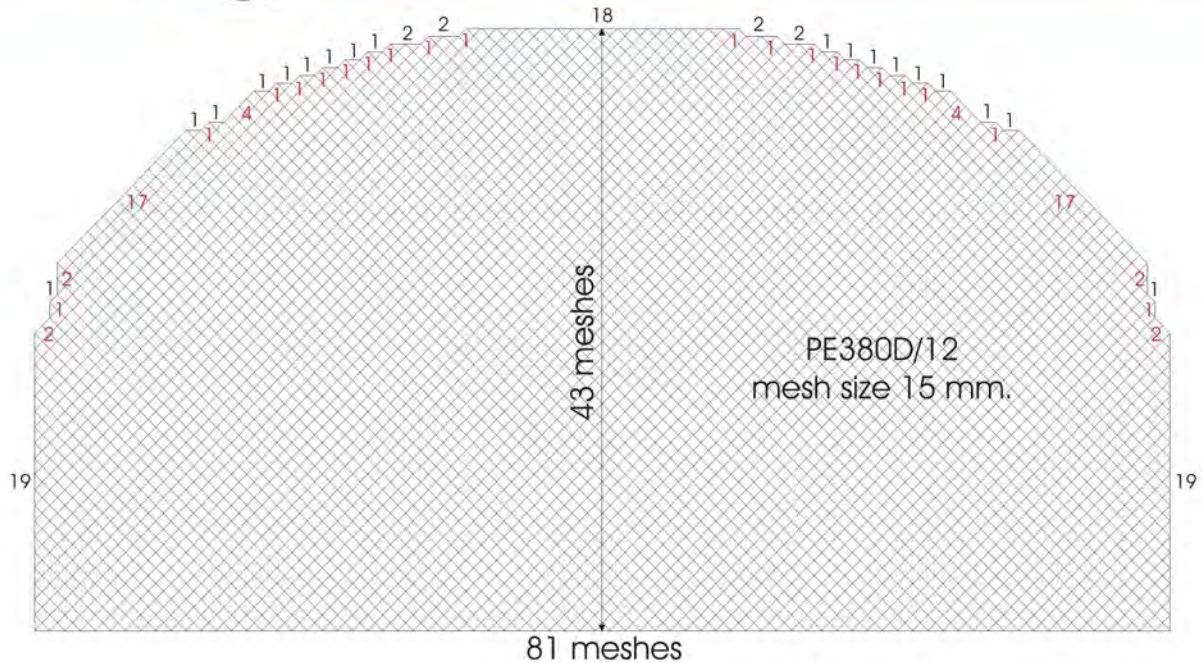

Figure 9: Scale for cutting the net.
To shape the netting for the back part (C), cut the primary piece of netting material according to the scale used in figure 9.